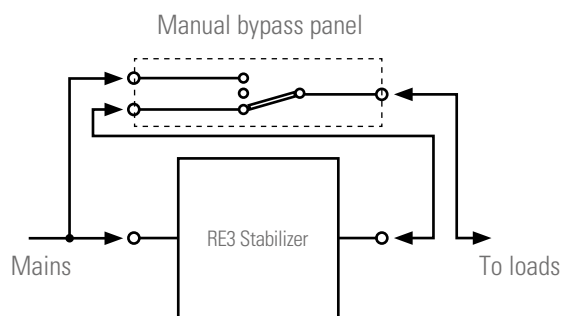
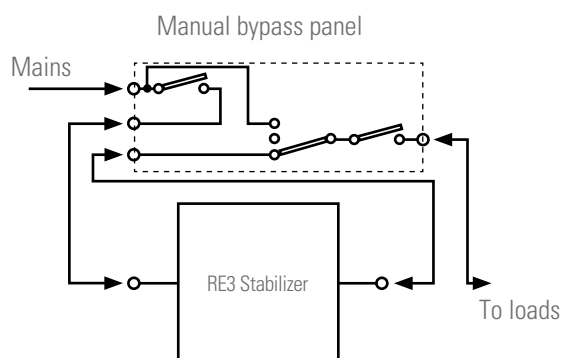
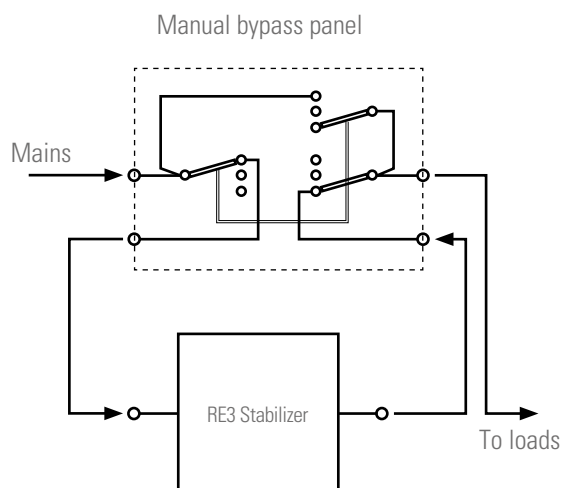

Fig. 16. Connection of a stabilizer with a manual Bypass panel with single switch.
Fig. 17. Connection of a manual Bypass panel with single switch and protections.
Fig. 18. Connection of a stabilizer with a manual Bypass panel with double switch.
- The connections between the manual Bypass panel with the power supply, the stabilizer and loads will be different depending if it is based in a single switch panel (see Fig. 16), in case there are additional protection switches (see Fig. 17) or if the panel has a double switch (see Fig. 18).